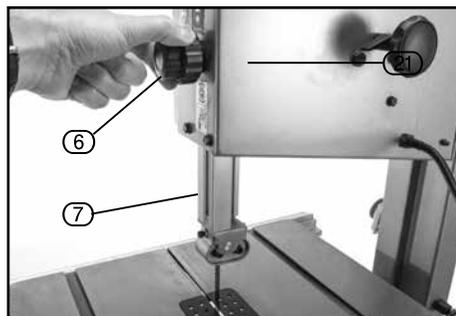

FIG. 12
9.5 BLADE GUARD SLIDE ADJUSTMENT – FIG. 12